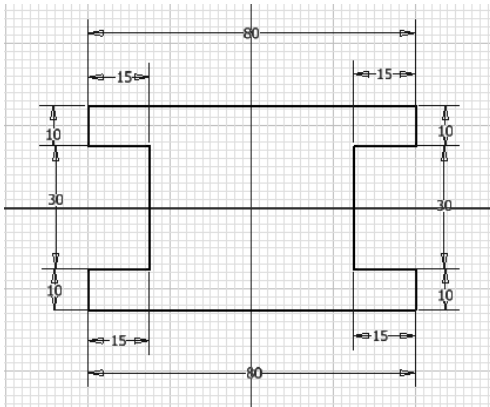

Figure 2-52 Sketch of the outer loop
14. Right-click to display the Marking Menu and choose **Done [ESC]** from it to exit the **Line** tool. The sketch of the outer loop is shown in Figure 2-52. You need to arrange the position of dimensions in the sketch by dragging them to view the sketch clearly.
The angular dimensions have not been shown in Figures 2-52 and 2-53 for clarity of sketches. You can control the display of the linear and angular dimensions of the sketch by using the **Sketch** tab of the **Application Options** dialog box. This dialog box is displayed when you choose the **Application Options** tool from the **Tools** panel. In the **Sketch** tab of the **Application Options** dialog box, choose the **Settings** button; the **Heads-Up Display Settings** dialog box is displayed. Clear the **Create dimensions when inputting dimension value** check box in the **Persistent Dimensions** area of the **Heads-Up Display Settings** dialog box and then choose **OK**. Next, choose the **Apply** and **Close** buttons from the **Application Options** dialog box to turn off the visibility of the dimension during sketching.